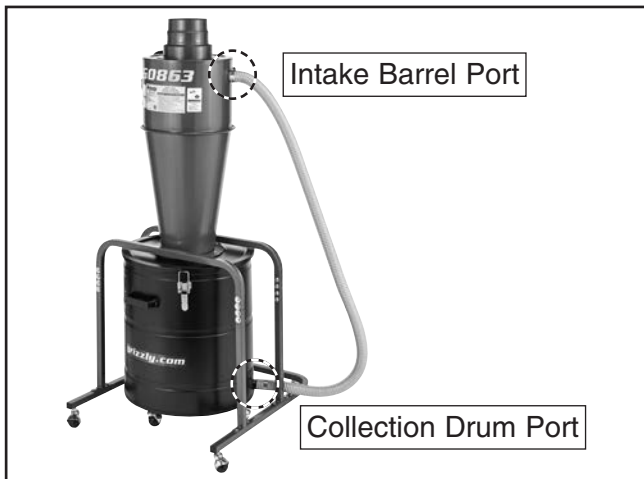

Figure 19. Vacuum hose attached to collection drum and intake barrel.
24. Place hose clamps over ends of vacuum hose, then attach one end of vacuum hose to intake barrel (see **Figure 19**) and other end to collection drum. Tighten clamps to secure hose.